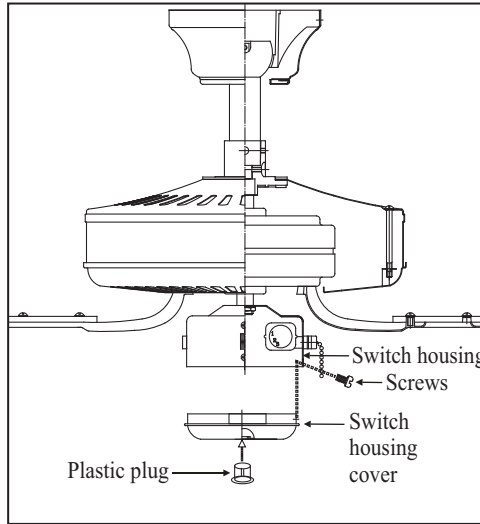

Figure 21
2. Attach the plastic plug to the switch housing cover. (Fig. 21)
3. Install the switch housing cover to the switch housing with screws provided. (Fig. 21)